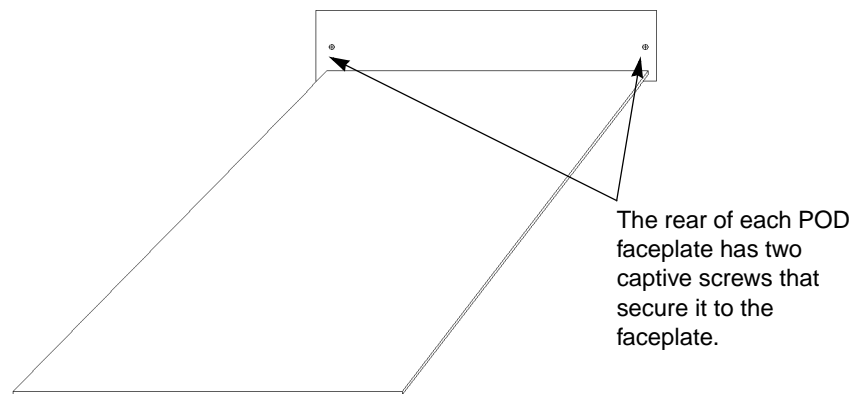

Figure 6-12. POD-Faceplate screw locations
2. Use a #1 Phillips head screwdriver to loosen the two black captive screws that attach each of the IPODs and the XPOD to the front faceplate (see Figure 6-12). All of the IPODs and the XPOD must be disengaged from the faceplate before it can be removed.